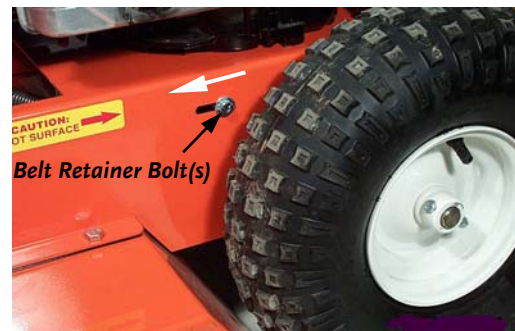

Figure 14
2. Loosen the two outside Belt Retainer Bolts on the right and left side of the machine near the wheels and slide them forward (**Figure 14**).